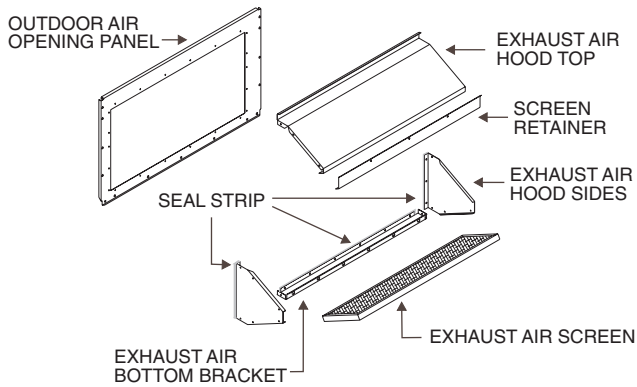

Fig. 24 — Exhaust Air Hood Assembly
Remove the EconoMiSer hood from its packaging. Locate the outdoor air opening panel. See Fig. 24. Remove hood assembly shipping brackets located on back (sloped) side of EconoMiSer assembly. These brackets are used to retain hood assembly during shipping only.
- Install the $\frac{1}{8} \times \frac{3}{4}$ in. seal strip on the exhaust air hood side panels and the bottom bracket. Assemble the exhaust air hood to the outdoor air opening panel as shown in Fig. 24, using the screws provided. *Do not attach hood assembly to unit at this time.*